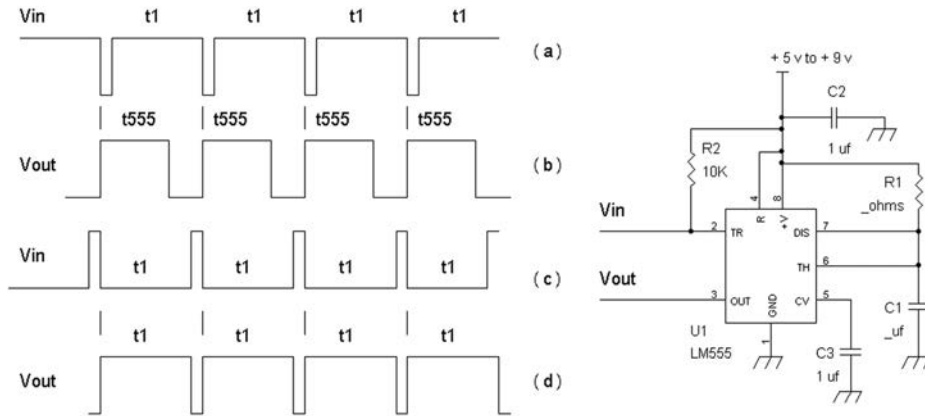
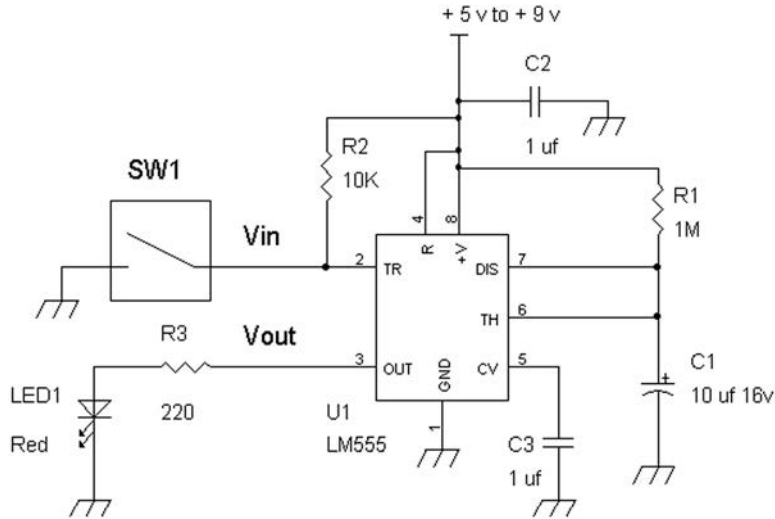
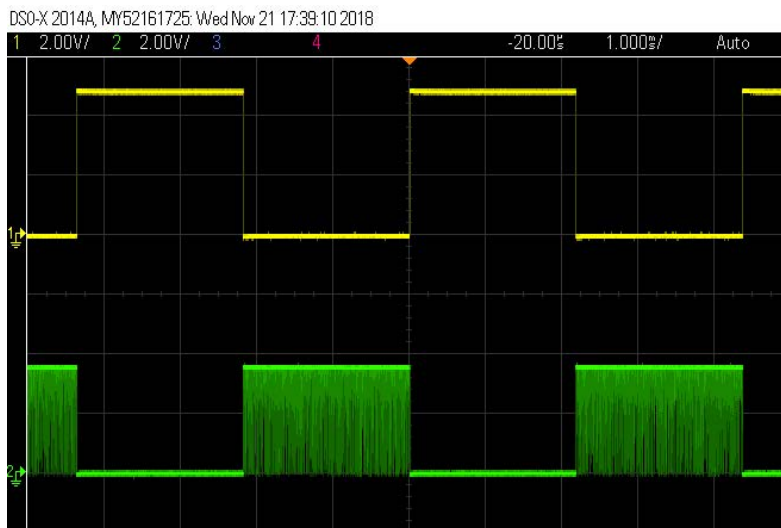

FIGURE 13-2 Input waveforms (a) and (c), and output waveforms (b) and (d) respectively with a schematic diagram of the monostable timing pulse generator.
FIGURE 13-3 Switch SW1 is a momentary switch and it is closed circuit to ground for a split second, which should then turn on LED1 for about 11 seconds.
FIGURE 13-6 Completely gated oscillating waveform when C1 has insufficient capacitance. Top trace is the input signal, bottom trace is the output waveform.
This 555 pulse generator circuit provides a fixed duration output pulse for an input signal that transitions from high to low logic levels (e.g., +5 v to 0 v). See Figure 13-2 where the 555 circuit is configured in “monostable” or pulse generator mode.
A “proper” input waveform for V_{in} is one that has narrow low logic voltage pulse-width that is shorter in duration than the output high logic state. In Figure 13-2(a) for V_{in} , the negative going pulse is shorter in duration than the output pulse's duration of t_{555} . With the proper waveform, the output positive cycle pulse width is $t_{555} \sim 1.1 R \times C1 = \tau$.
However, if the input waveform has a longer duration low logic voltage, such as in Figure 13-2(c), where its duration $t_1 > t_{555}$, the output of the timing chip at pin 3 will result in a longer positive pulse of duration t_1 of Figure 13-2(d) even though the pulse-width should really have a duration of t_{555} shown in Figure 13-2(b).
In Figure 13-2, capacitor C3 is a decoupling capacitor to ensure that the output pulse from pin 3 does not jitter due to noise coming through the power supply. If the power supply into pin 8 has ripple or other noises, C3 may have to be changed to a higher capacitance value such as an electrolytic capacitor, 33 μ f at 25 volts, where the positive terminal of C3 is connected to pin 5 and the negative terminal of C3 is connected to ground. In general, the 555 timer chip should be powered by a regulated voltage to supply a “noise free” voltage to pin 8. However, this integrated circuit may be powered by batteries, which do not have ripple or noise. But be aware that a battery will slowly drop in voltage as it is supplying current to the 555 circuit.
1. With the circuit in Figure 13-2, find the DC conditions first using a voltmeter, or with an oscilloscope in the DC coupling mode set to 2 volts per division. Measure voltages with a voltmeter at pins 8 and 4 that should be the supply voltage, such as +5 volts (or some other positive supply voltage ≤ 15 volts). Confirm that the voltage at pin 1 that should be connected to ground is zero volts.
4. Alternatively, if you do not have a signal generator and just want to see if the 555 chip is working, connect a voltmeter (DVM) to pin 3 and ground, where the positive test lead is at pin 3 and the negative test lead is connected to ground. Make sure pull-up resistor R2 in Figure 13-2 is installed. We are now going to make an 11-second timer. Let $R1 = 1\text{M}\Omega$, and let $C1 = 10\text{ }\mu\text{f}$ where the (+) terminal of the C1 is connected to pins 6 and 7. The DVM should be reading close to zero volts at pin 3. Now short pin 2 to ground temporarily for less than 1 second, then observe the DVM is at a logic high voltage > 3 volts DC for about 11 seconds. You can use a watch or a clock to measure the time. If this is OK within ± 30 percent, the circuit works. Be sure to measure both R1 and C1 if possible with a DVM (e.g., Extech MN26 or equivalent DVM). If you do not have a DVM, you can connect pin 3 to a series resistor (e.g., 470Ω to 4700Ω) to an LED (e.g., red, yellow, or green having about a 2-volt turn-on voltage). See Figure 13-3. The LED should be turned on for about 11 seconds. Then replace R1 and C1 with the original values. Again the output turn on time for an input signal from high to low logic states (e.g., input signal from +5 volts to 0 volts) is $\tau = 1.1 RC$.
We will now show two cases of pin 3 output signals in the monostable mode (one shot) where you can observe a high-frequency oscillating waveform from the 555 timer chip. See circuits in Figure 13-2 or Figure 13-4. The first example shows what happens when you forget to install the timing capacitor, or install the timing capacitor (e.g., C1) with an incorrect value where $C1 \leq 20$ pf. See Figure 13-6, second trace from the top. The fix for this is rechecking your wiring and reading the capacitor’s marking, then installing the correct value capacitor that is typically in a range of 1000pf to 10 μ f.
If you also forget to wire a timing capacitor for C1, then you may see an output waveform on pin 3 as shown in Figure 13-6. Also, make sure the 555 pins 6 and 7 are connected.